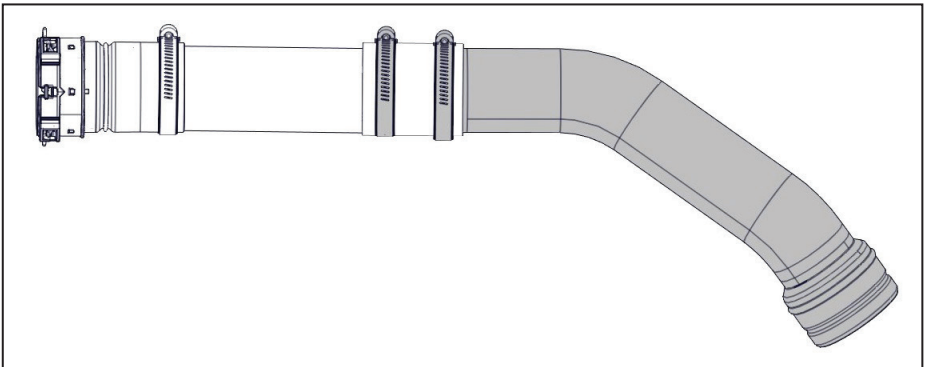

Figure 102 — Installing the CAC hoses
- ☐ Install the OEM "hot" CAC tube into the VMAC silicone hose. Ensure the silicone hose has equal coverage of both components. Install the gear clamps with the screw heads facing the firewall to provide the best fit (Figure 102).